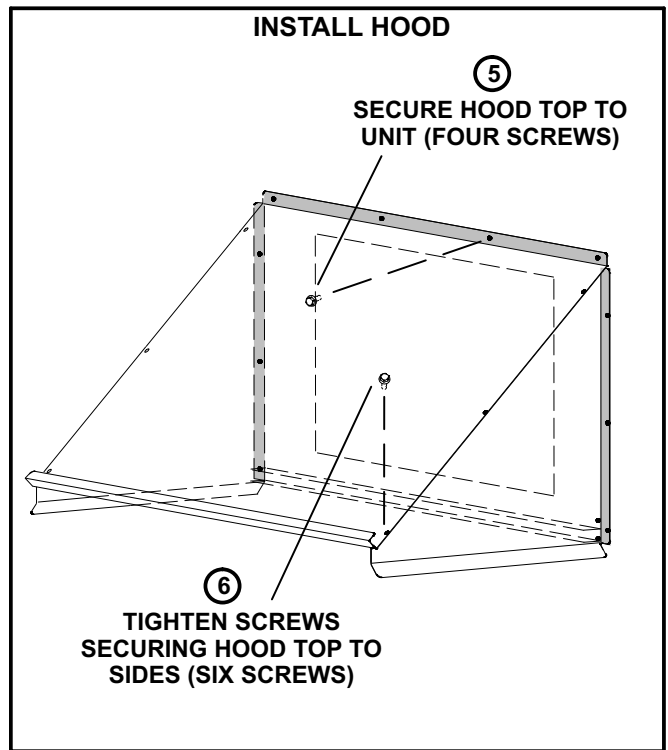

FIGURE 9
- 5- Align holes in the top flange of the hood top with the locating dimples provided on the unit. Secure with #10 self-drilling screws. See figure 9.